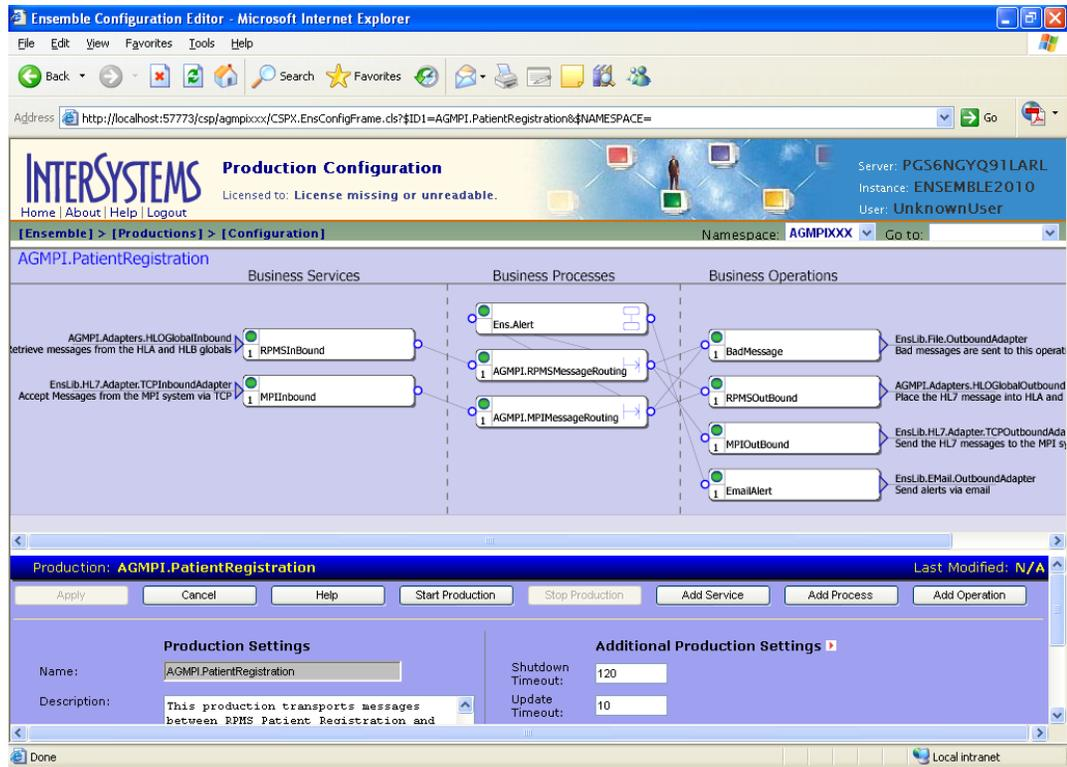

Figure 5-10: Graphic representation of the production instance on the **Ensemble Configuration** page
5. After installing the Adobe SVG Viewer, the **Ensemble Configuration** page displays a graphic representation of the production instance, as shown in Figure 5-10. The actual production may look slightly different from this example.